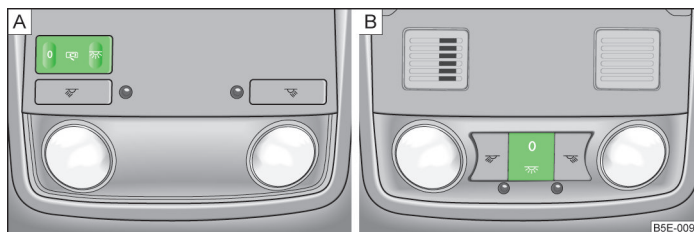

Fig. 34 Interior lights at the front
- Press the button in the area of the symbol  » Fig. 34.
On vehicles without an interior monitor, the middle position is marked with the symbol  » Fig. 34 - .